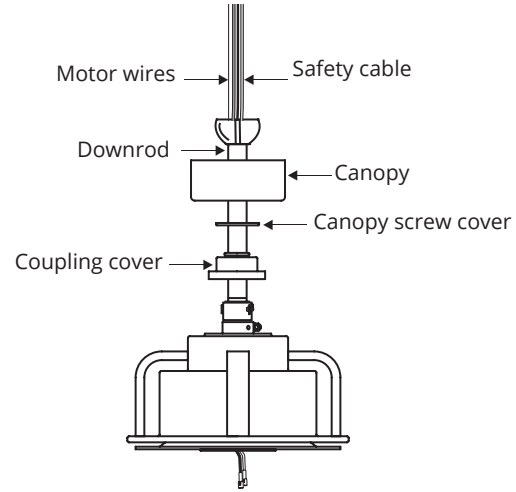

FIGURE 10
1. Slip the coupling cover, canopy screw cover (painted side face down), and canopy (opened side up) onto the downrod. (Fig. 10). Coupling cover goes all the way to the bottom.
2. Carefully reinstall the hanger ball onto the downrod, being sure that the cross pin is in the correct position, the set screw is tightened and wires are not twisted. (Fig. 10)